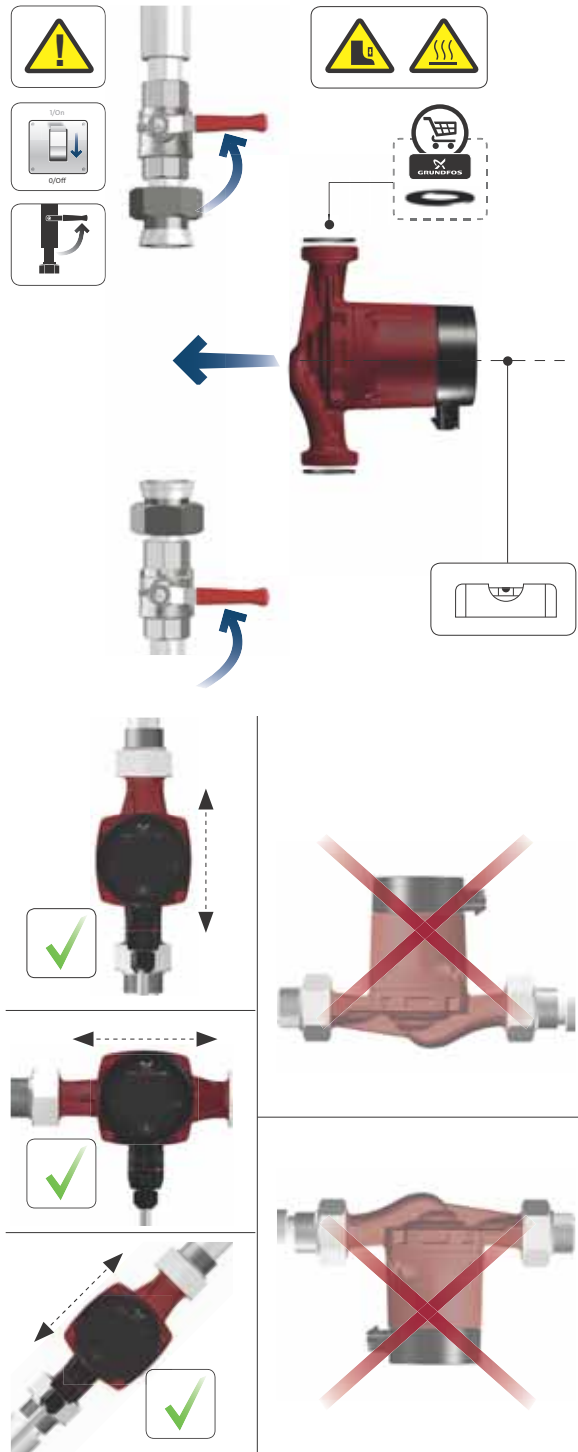

Fig. 1 Mounting the GRUNDFOS ALPHA1 L
- Install the pump with horizontal motor shaft. See figs 1 and 2.